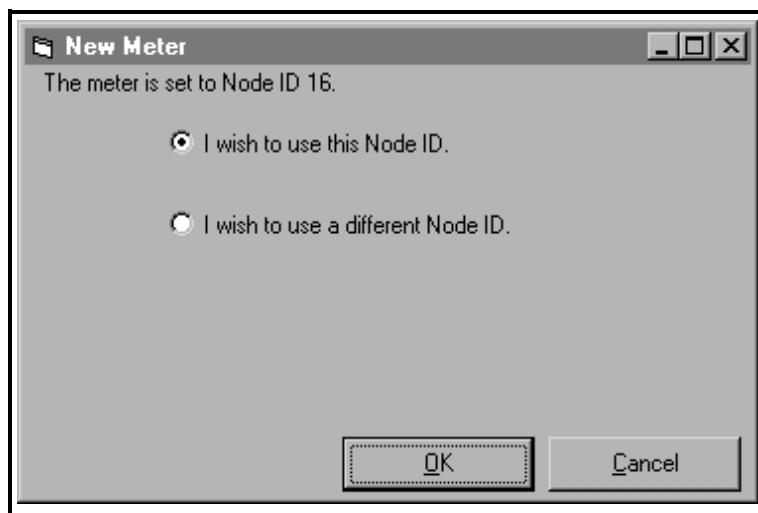

Figure 7: Node ID Confirmation
6. After responding to the previous dialog box, a dialog box showing the Node ID (16 in this example) of the meter appears (see Figure 7 below). Select the "I wish to use this Node ID" radio button and then click on the [OK] option button.